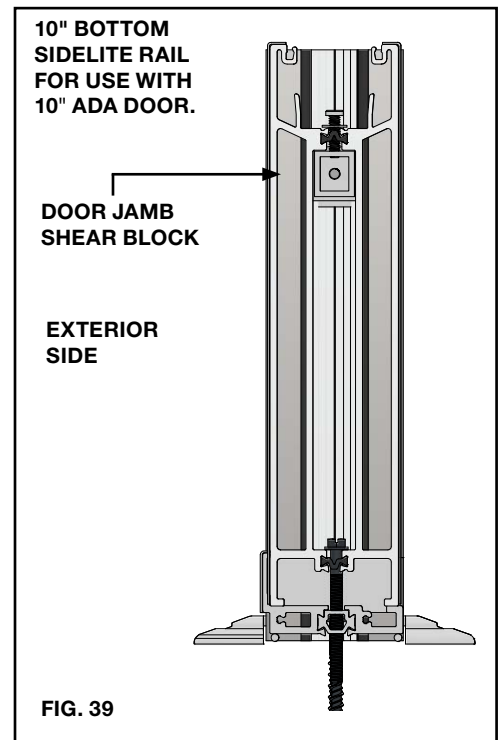

FIG. 39
**(Figure 39)** shows the location of the shear block on a 10" bottom rail.